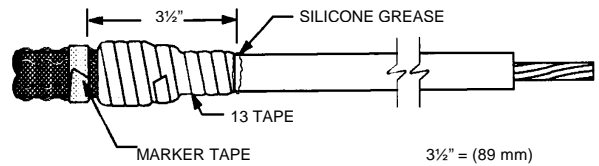

Figure 5
1. Place a marker tape 3 1/2" (89 mm) back from the insulation end of the 13 Tape (**Figure 5**).
2. Cover the edge of the 13 Tape with a liberal coating of silicone grease (**Figure 5**). NOTE: On this product, the silicone grease does not serve as a lubricant. It must be used to fill the step at the 13 Tape leading edge. The silicone grease may also be used to fill in cable surface defects and can be applied over the ground strap seal to aid in core removal (step B-4).